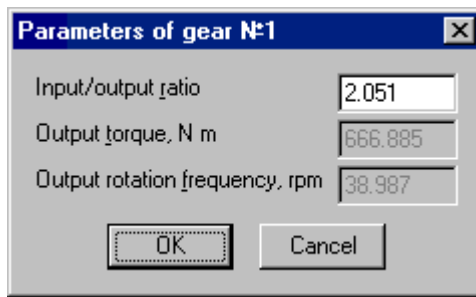

Fig. 3.3 *Parameters of gear №1* dialog
- Double click on required item of **Scheme elements** list box to edit. Dialog box **Parameters of gear № N** (Fig. 3.3) where N – number of stage from **Scheme elements** list box will be displayed as a result.